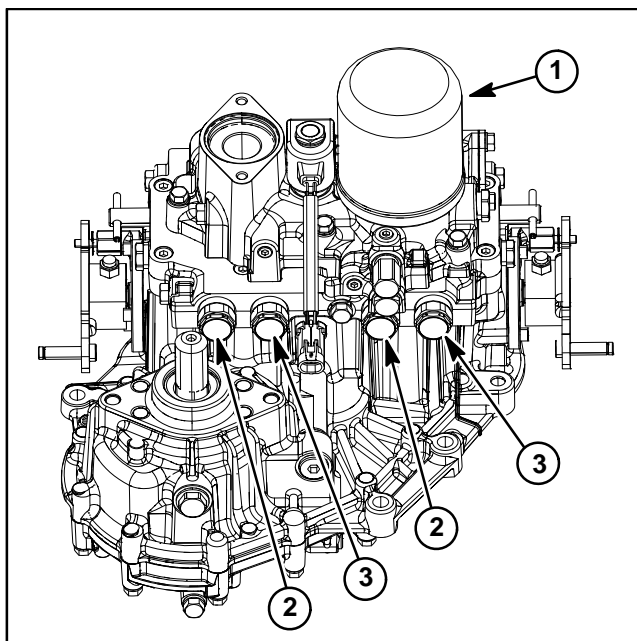

Figure 30
NOTE: The forward relief valves for the two (2) transmission pump circuits are identical and thus can be interchanged. The reverse relief valves are also identical. The forward relief valves, however, are different than the reverse relief valves so **do not** interchange forward and reverse relief valves. The relief valve locations are shown in Figure 30.